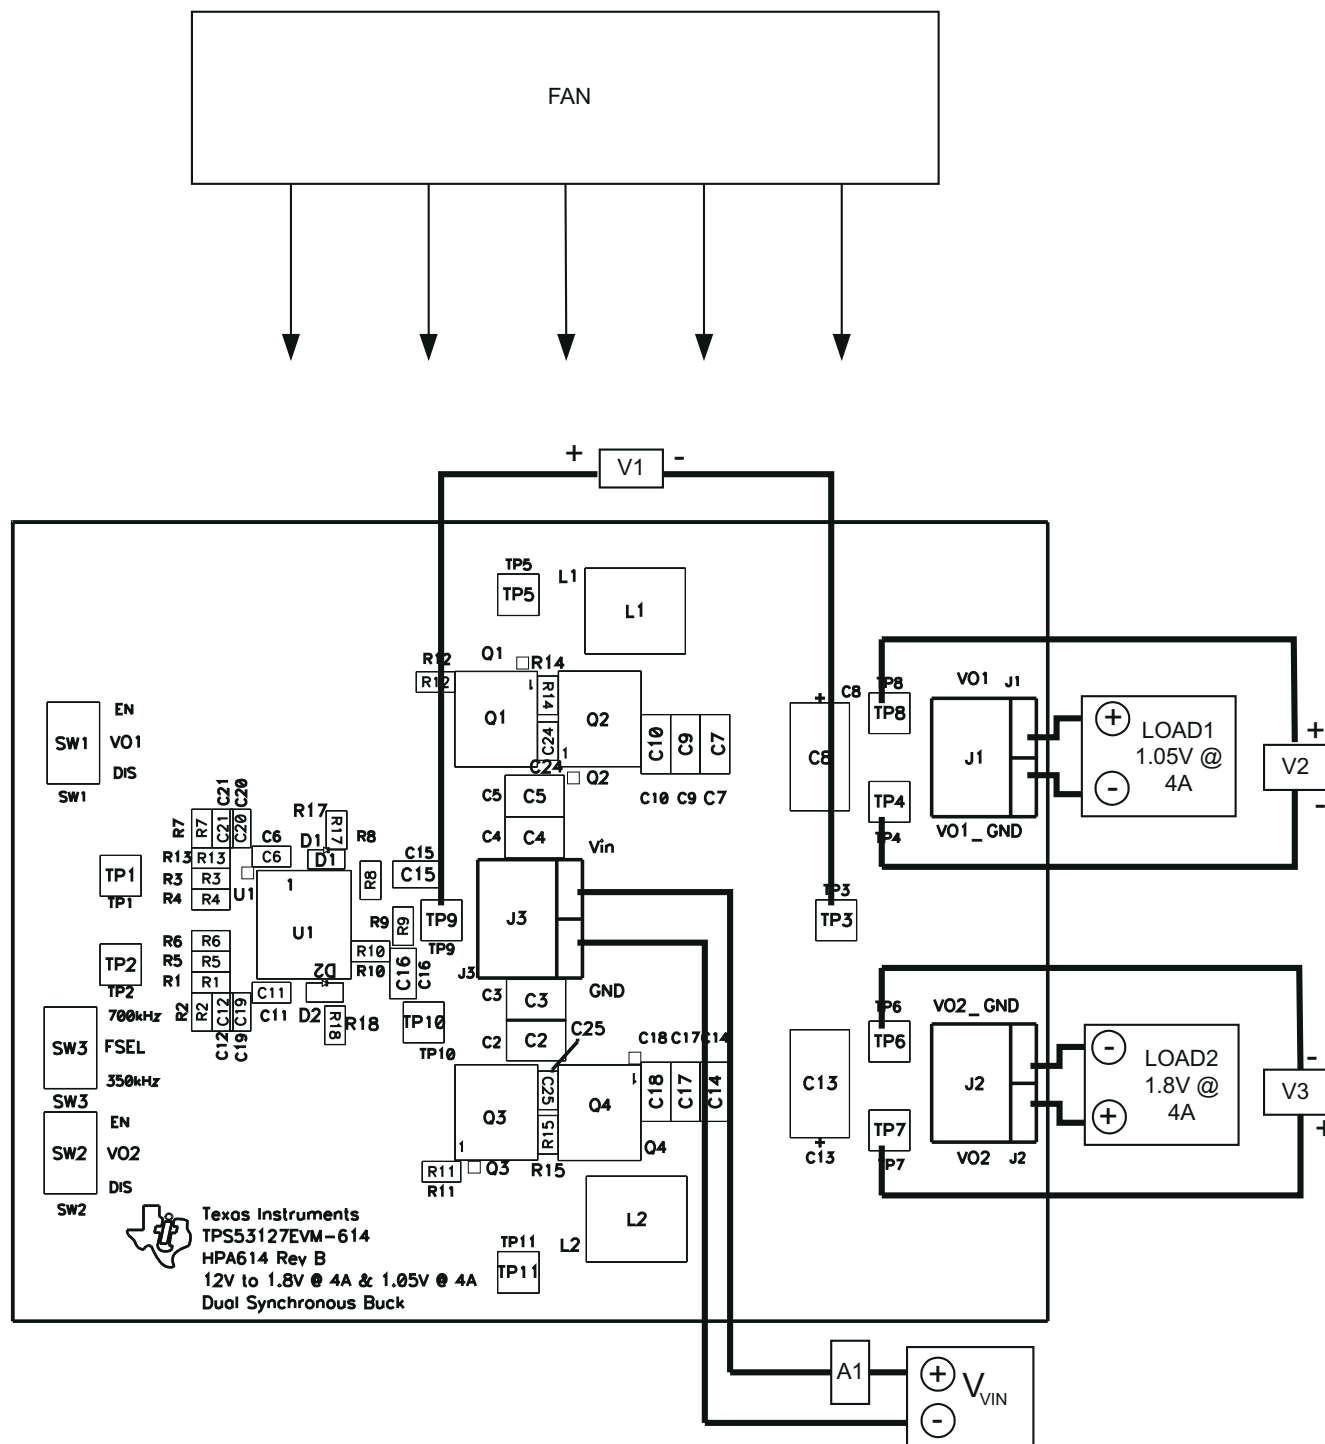

Figure 5-1. TPS53127EVM-614 Recommended Test Setup
Figure 5-1 shows the recommended basic test setup to evaluate the TPS53127EVM-614. Note that although the return for J3 and J1 and JP2 are the same system ground, the connections should remain separate as shown in Figure 5-1.
2. Prior to connecting the DC input source, V_{IN} , it is advisable to limit the source current from V_{IN} to 3.0 A maximum. Make sure V_{IN} is initially set to 0 V and connected as shown in Figure 5-1.
4. Place a fan as shown in Figure 5-1. Turn it on, making sure that air is flowing across the EVM.
5. Connect an oscilloscope probe to CN1 or CN2 shown in Figure 5-1.